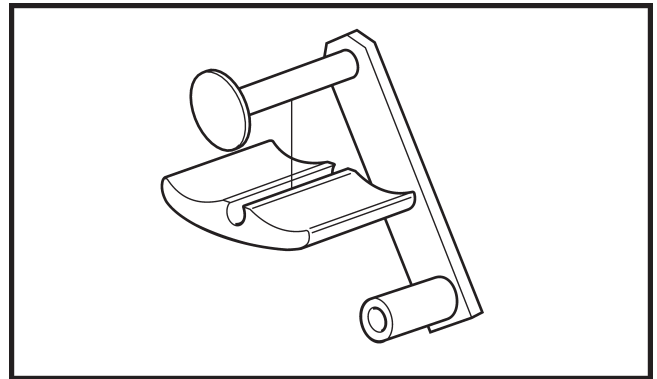

Figure 7-7. Chain tensioner components.
3. Pop the slider block off the shaft of the chain tensioner arm. Figure 7-7.